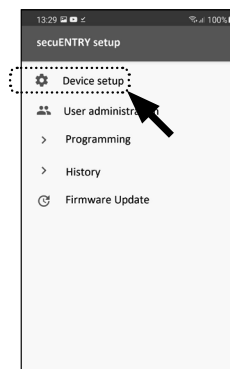

Fig. 7
- 4 In the following menu, tap on "Device Setup" (Fig. 7). From here you can add and setup secuENTRY units to the app.